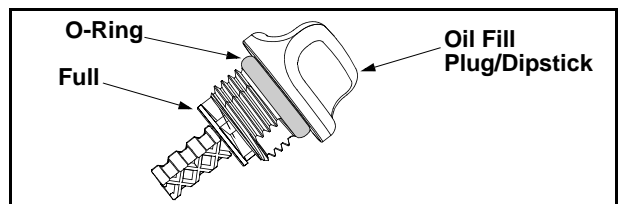

Figure 9
- If the level is low, add a small amount of oil to the oil fill hole and recheck. Repeat until the oil level reaches the top of the dipstick. See Figure 9.